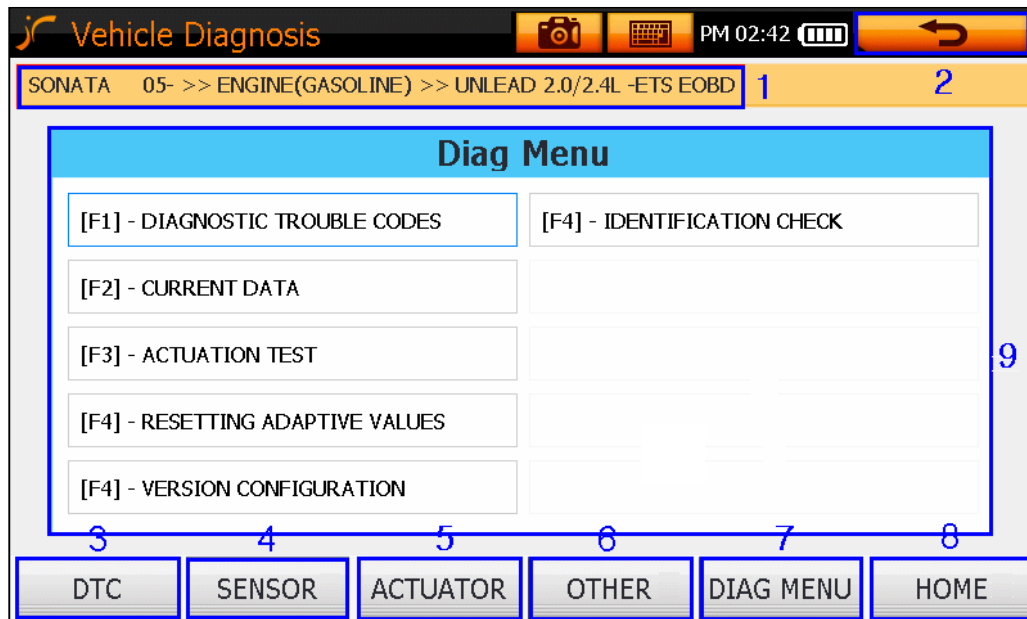

Fig. X-12: Diagnosis Main Screen
- Pressing this menu displays the diagnosis main screen again on any screen. **Fig. X-12: Diagnosis Main Screen**